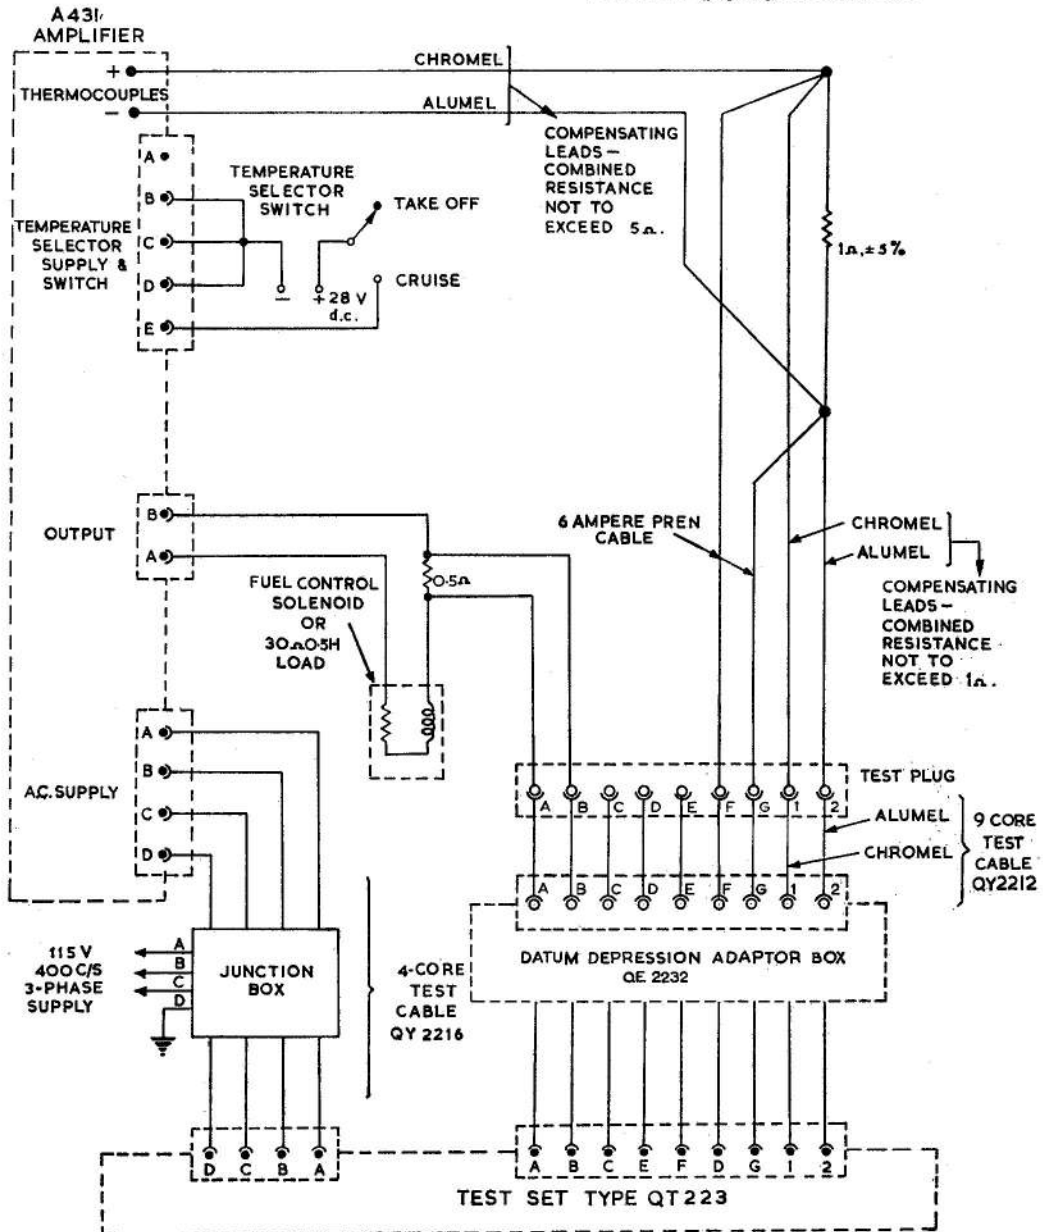

Fig. 5. Bench test circuit
- (1) Test set, Ultra, Type QT223.
- (2) Nine-core test cable, Type QY2212.
- (3) Four-core test cable, Type QY2216.
- (4) A bench test rig made up as shown in the diagram (fig. 5).
- (5) Temperature selector switch (fig. 5).
- (6) Datum depression adaptor box, Ultra Type QE2232.
- (7) A 115V, 3-phase, 400 c/s supply.
- (8) A 28V d.c. supply.
- (9) Stop watch.
28. The thermocouple commoning leads are connected to the amplifier input terminals (thermocouple terminal + and —) and to the test plug (terminals 1 and 2) by special compensating leads. Therefore, it is essential that the connected cables in the bench test circuit shall include Chromel-Alumel leads as shown in fig. 5.
- (1) Fit Datum Depression Adaptor Box to QT233 test set and connect the 9-pole socket to the corresponding test set plug.
- (2) Connect cable QY2212 to the plug on the adaptor box, and to the test plug.
- (3) Connect the two 4-pole sockets at the ends of the test leads QY2216 to the A431 amplifier and the test set QT223. Connect the junction box of the test lead QY2216 to the 3-phase, 115V, 400 c/s supply.
- (4) Connect test rig sockets to amplifier, and connect the datum temperature selector switch and 28V d.c. supply as shown in fig. 5.
- (5) Connect the cores (marked + and —) of the compensating leads to the corresponding terminals of the amplifier thermocouple block.
- (6) Ensure the appropriate datum temperature plug is fitted to the amplifier.
34. (1) Set the test rig TEMPERATURE SELECTOR (fig. 5) to TAKE-OFF.